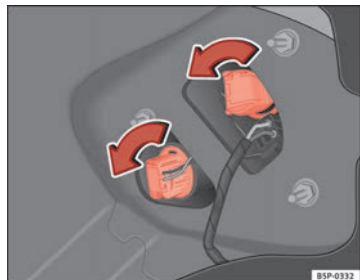

Fig. 202 Lights on vehicle body
- Turn the bulb holder to the left ⇒ Fig. 202.